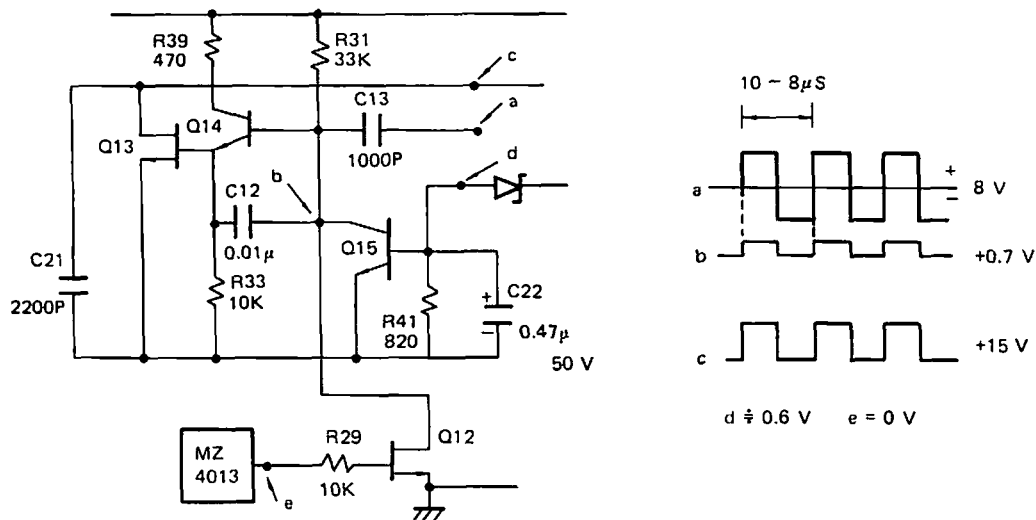

Figure 6.1 Power Supply Circuit, Output Signal
- 1: Is the signal transmitted to each part in Figure 6.1?